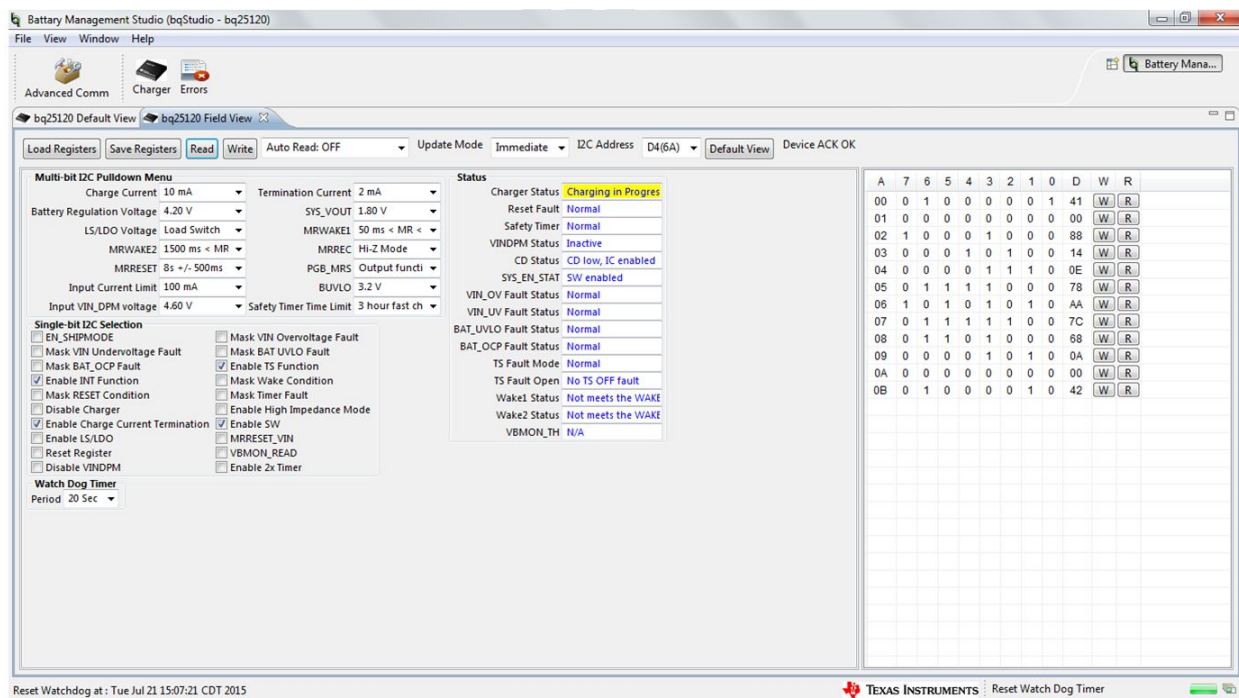

Figure 5. bq2512x Software GUI
3. Open Software GUI and go to “Field View” page (as shown in Figure 5).